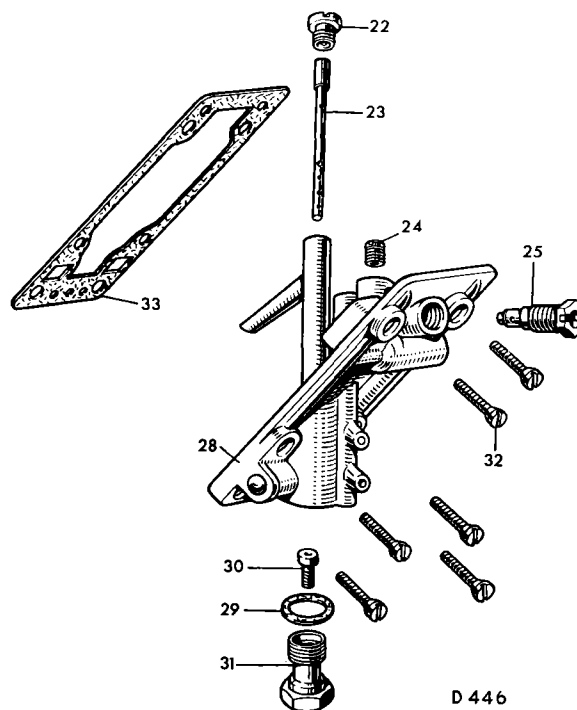

Fig. 40 Exploded view of jet block
Slacken the clips (2) and (3) (Fig. 40), securing air box (1) to carburetors and air cleaner hose (5) and remove the air box.